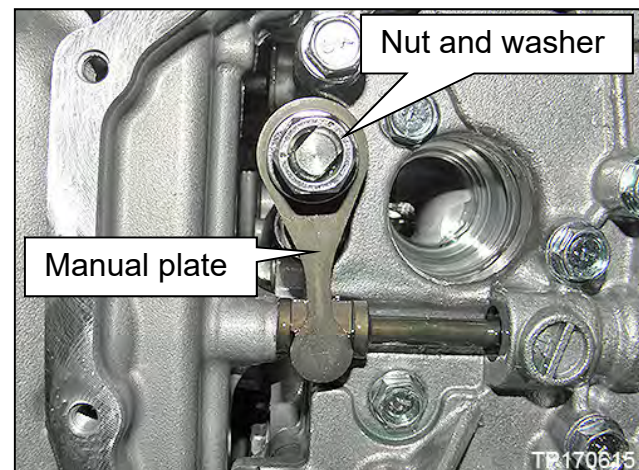

Figure 4
9. Remove the nut and washer, and then remove the manual plate shown in Figure 4.